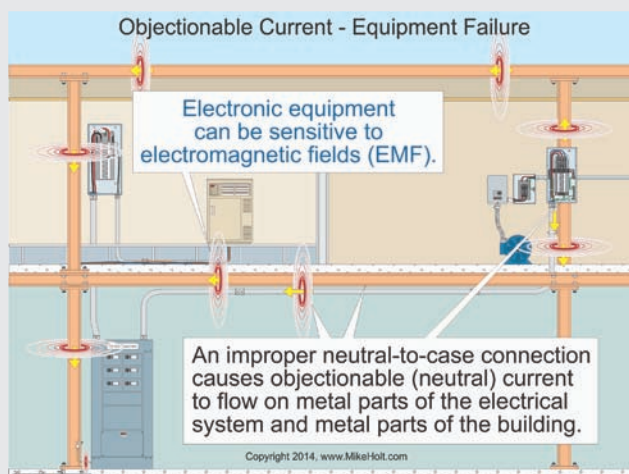

Figure 250–34
**Improper Operation of Electronic Equipment.** Objectionable neutral current flowing on metal parts of electrical equipment and building parts can cause electromagnetic fields which negatively affect the performance of electronic devices, particularly medical equipment. Figure 250–34